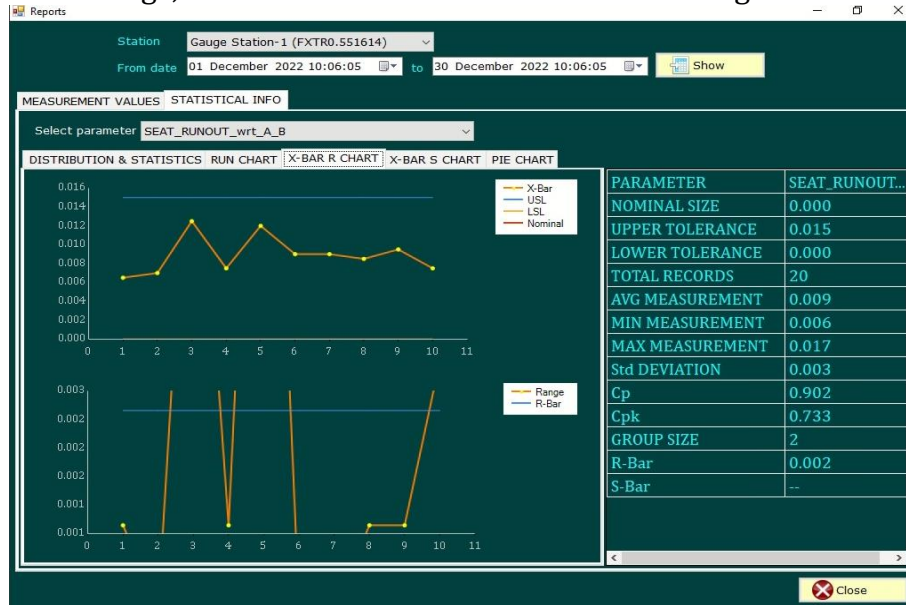

Figure 25
- **X bar R chart:** An X bar chart is a line graph. X- Bar, USL, LSL, nominal, range, and R-bar are shown here as shown in figure 25.